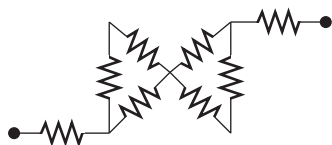

FIGURE P3.8 Circuit for Problem 3.8.
3.8 (A)* Find the R_{eq} in Figure P3.8, given that every resistor has an equal resistance, R (the center crossing is connected).